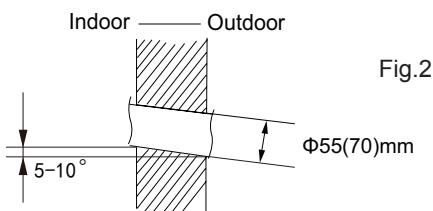

Fig.2
(2) Open a piping hole with the diameter of $\Phi 55(70)\text{mm}$ on the selected outlet pipe position.In order to drain smoothly, slant the piping hole on the wall slightly downward to the outdoor side with the gradient of 5-10°.(As show in Fig.2)